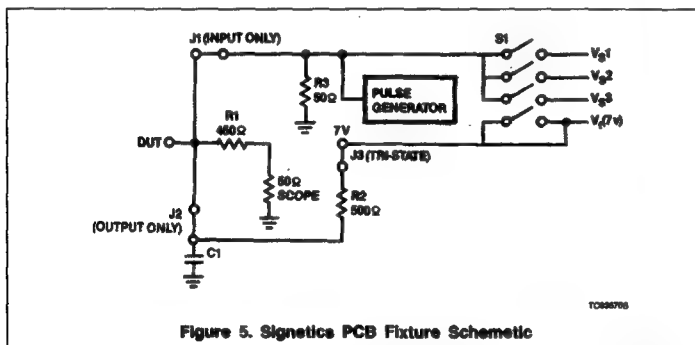
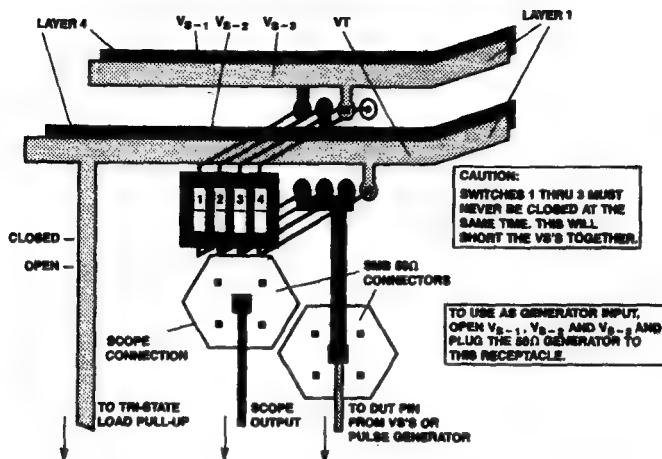

Figure 5. Signetics PCB Fixture Schematic
Figure 8. DIP Switch Connections for V_{b-1} , V_{b-2} , V_{b-3} , and V_T and the SMB Connectors for Input Signals and Output Measurement
There are two types of signal lines on this fixture: input and output; both of which are 50 Ω transmission lines. The input line is on the top side of the board and is always terminated in 50 Ω . It is connected to the DUT via a .3" jumper, Jumper #1 for input. When this jumper is installed, the DUT pin is available only as an input. To allow this line to be used as an output, a .1" jumper, Jumper #1 for output, is used instead of the .3" jumper. This connects the DUT pin to the AC load when the DUT pin is an output. See Figure 5.
hard to detect errors into the waveform. The second reason being that most suppliers of these technologies provide data based upon the Low-impedance approach and most large users of these products do so as well. This also allows the fixture to be used for ECL testing since that product uses a totally 50Ω environment. Figure 5 illustrates how this test fixture implements the 50pF/500Ω load schematically.
As illustrated in Figure 5, the load is shared with the 50Ω input of the measurement system; a 50Ω sampling oscilloscope. The 450Ω resistor: R1, is soldered to the socket pin of the device and is in series with the 50Ω input of the scope. Figure 6 illustrates this on the board layout of one input/output pin. This allows virtually a probe tip on the device pin. The load capacitor: C1, is a 33pF ceramic chip capacitor. This is added to the measured value of 17pF of board capacitance, achieving the 50pF value specified for the load. The distance from the pin to the capacitor is .5 inches and is adequate for the testing of these product families.
For testing 3-State parameters, the 500Ω resistor: R2, is connected to its pullup supply. V_T via a .3" jumper: Jumper #2. The V_T supply is bussed to each pin and may or may not be connected with that jumper. See Figures 5 and 6.
When the input is not used for a signal input, the line may be switched to one of three voltage sources: V_{S1} through V_{S3} , by the use of a DIP switch on each pin. It may also be left open and then the 50Ω pulldown resistor: $R1$, pulls the line to ground and can be used as a hard low level. See Figure 5. These voltage levels are brought in from external supplies through banana connectors like V_{CC} . This scheme eliminates excessive cabling to each input to provide the static input levels and thereby reduces parasitic inductances and cross-talk. Each of the 3 busses and the V_i bus all have places for bypass capacitors in the event of noise on the static levels. Figure 8 illustrates the DIP switch and SMB connectors and how they control the input stimulus and output measurement.
As stated previously, the measurements are made with 50Ω sampling systems. The connections to these systems are made via SMB connectors. This was chosen since it is compatible with SMC; it is push-on, it is small for easy configuration, and it is capable of high bandwidth operation. Figure 8 illustrates where the connections are made, where the pulse generators connect to the input and an SMB connector. Since the 450Ω resistor: $R1$, is soldered directly to the pin of the device, the actual probe tip is at that point. See Figure 6. This has the advantage of eliminating any distance from the device to the probe tip, thus guaranteeing accurate results.
dedicated fixture. However, on a dedicated fixture, the pins are individually constructed to be either an input or an output, and in so doing, the fixture is usable for 1-to-4 devices. The Signetics fixture, once dedicated to a particular V_{CC} and GND configuration, is built up to have both input and output components on all signal pins. The selection of which pin is an output or an input is made by inserting the appropriate jumper. See Figures 5 and 6. The same applies in doing tri-state testing. The tradeoff here is that it would probably take less time to setup the dedicated fixture than the Signetics fixture. To help compensate for that tradeoff, we have the three V_S supplies that may be switched into any pin to provide input static levels and eliminate the need to bus input High or Low levels by external cabling. For the user that means the only connections being made to the fixture are:
- the V_i supply (banana jack): this is the 3-State pullup voltage and is permanently connected to the bus to each pin. It is selectable by Jumper #2, see Figures 5 and 6. For FAST and ALS products this is $7V$. For ACL products this is $V_{CC} \times 2$ and it is not used for ECL applications.